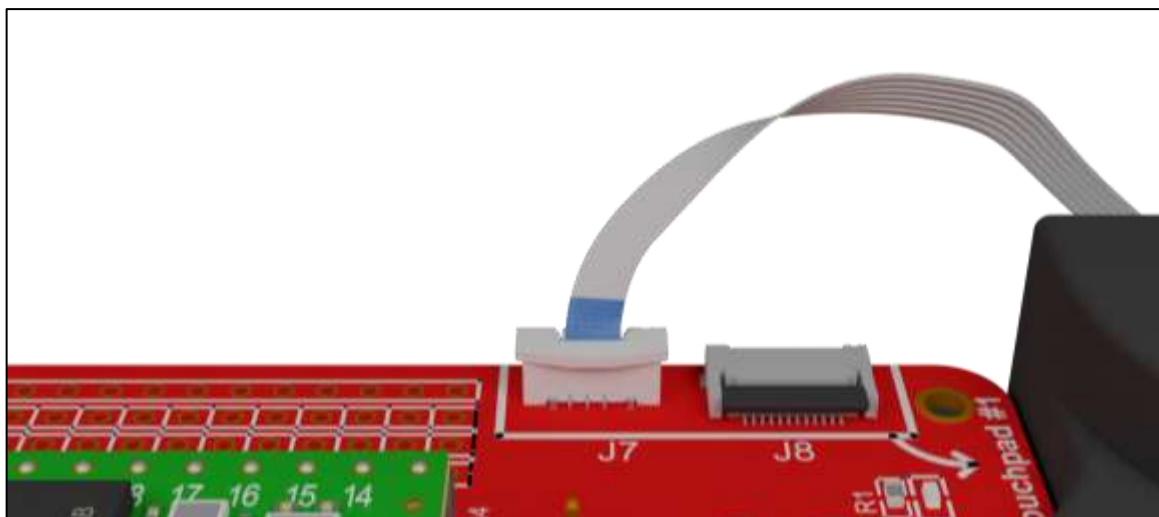

Figure 4: Connection to the development board.
3. On the development board, follow the same procedure to connect the other end of the FFC into the 6-pin connector. If using only 1 touchpad, be sure to connect it on the Touchpad #1 side (see Figure 4).